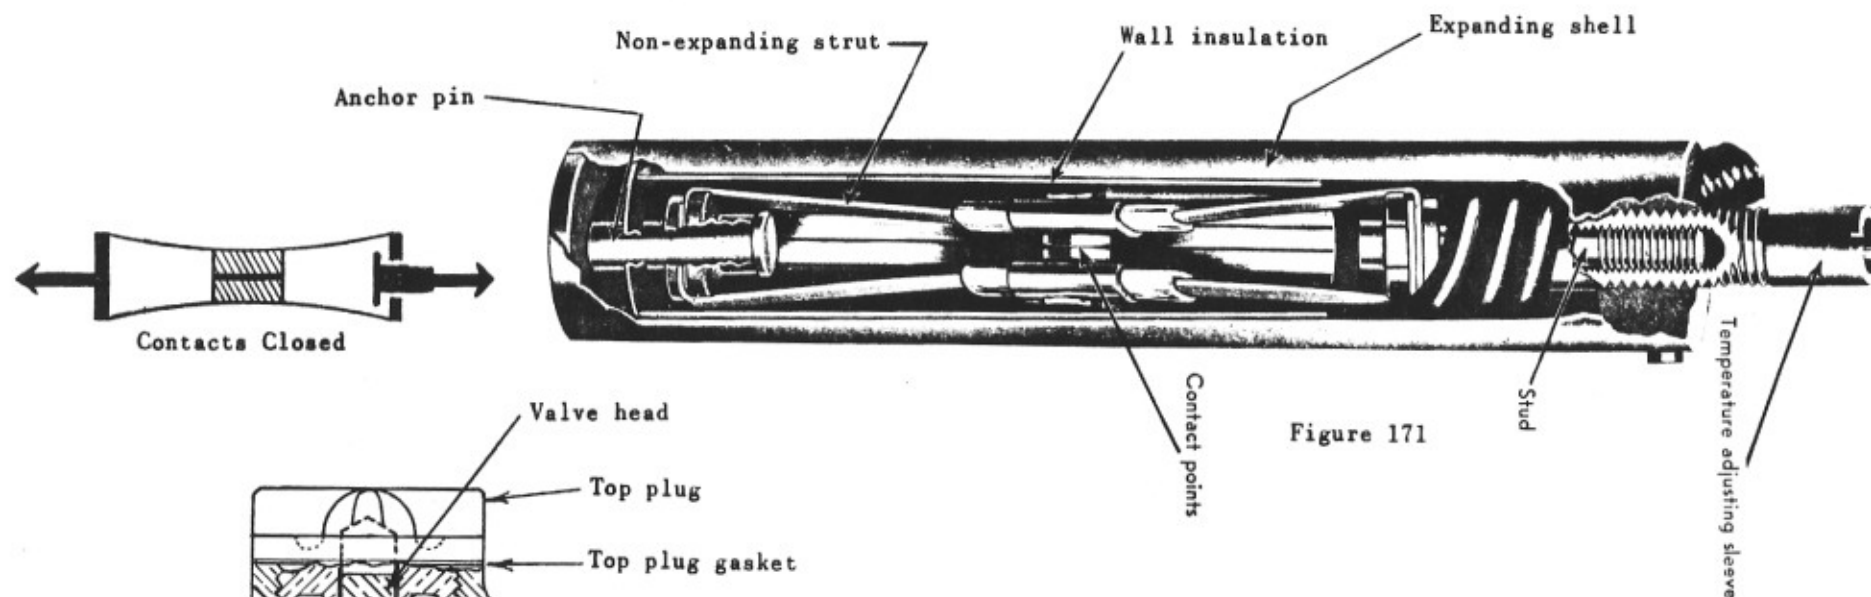

Figure 171
**TEMPERATURE CUT-OUT SWITCH:** Shown on Figure 171 is a Fenwal No. 18000. The control is adjustable and has been set at 170 degrees. Refer to Figure 171. With temperature rise shell expands and point A moves toward point B. Tension forces contacts open, which de-energizes 140 degree solenoid valve. With temperature drop shell contracts and point A moves away from point B allowing contacts to close.